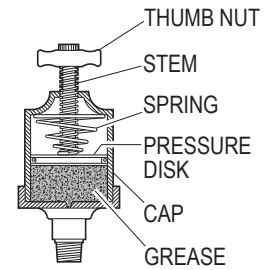

Figure 3
- B. Check automatic pressure lubricator at pump. If the stem is fully extended with thumb nut all the way up then pressure lubricator contains lubricant - if not, lubricant must be replaced by the following procedure (See Figure 3):